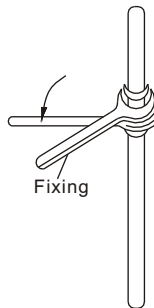

Fig 15
- When connecting flared connectors, the two pipes must be aligned with the same center. Then put on the nut and revolve it in and then tighten it with two spanners, see Fig 15.